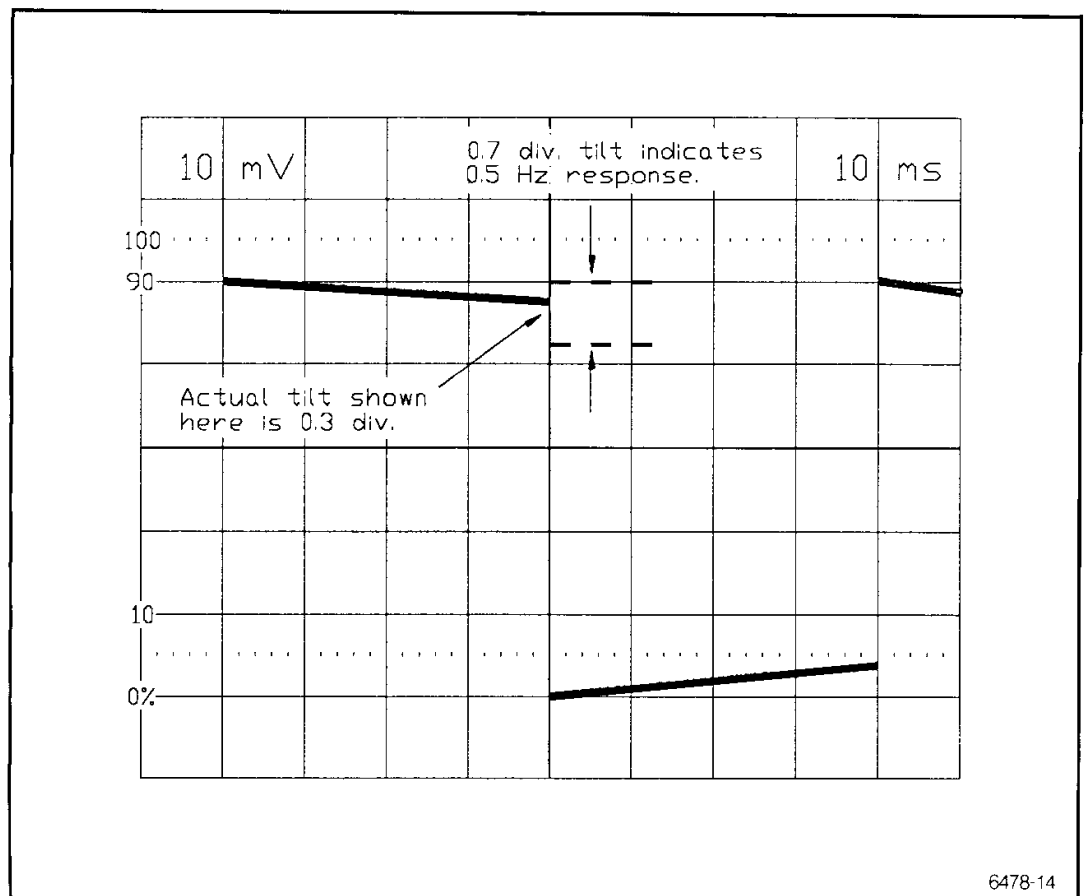

Fig. 4-2. Typical response of the CT-4 with the A6302/AM503B to a low-frequency square wave. A tilt of 0.7 division indicates a  $-3$  dB response of 0.5 Hz.
g. Measure the tilt of the positive half-cycle. The tilt should be 0.7 division or less, indicating a low-frequency response of 0.5 Hz or lower (see Fig. 4-2).